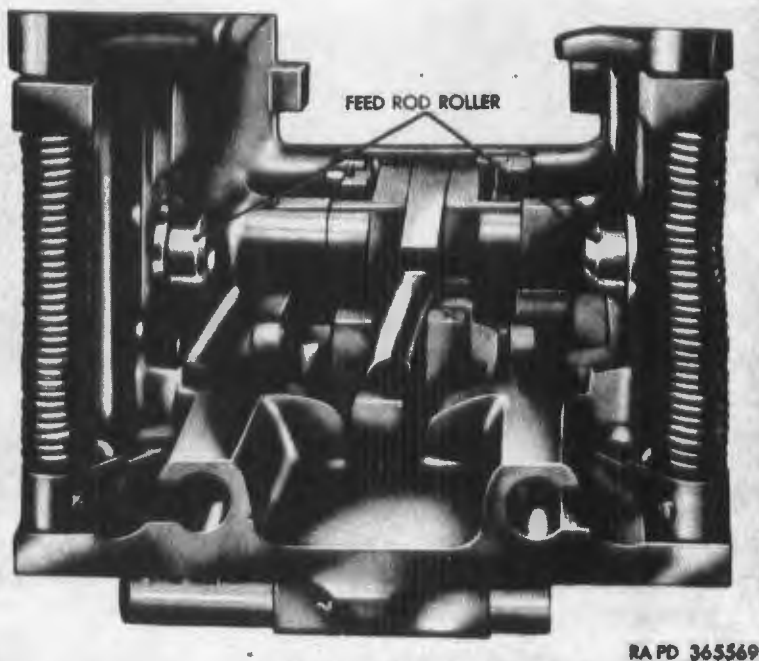

Figure 327. Feed rod rollers—installed.
- (3) Insert a clip of dummy ammunition in automatic loader and check for proper operation. If the mechanism does not operate smoothly or requires greater effort than normal, it should be disassembled and the cause determined as described in the following paragraphs.
- (4) Pull the loader tray forward out of loader and examine the tray for normal condition. If any part of the tray is damaged or broken, notify ordnance maintenance personnel. To install the loader tray, slide it into position, being careful not to push the tray in far enough that the rammer shoe will pass over the catch levers.
- (5) Check feed rod rollers (fig. 327) for freedom of rotation and examine for cracks. If feed rod rollers bind or are cracked or broken, they must be replaced. To replace the rollers it is necessary to remove the loader tray first, the rollers can then be removed and replaced.